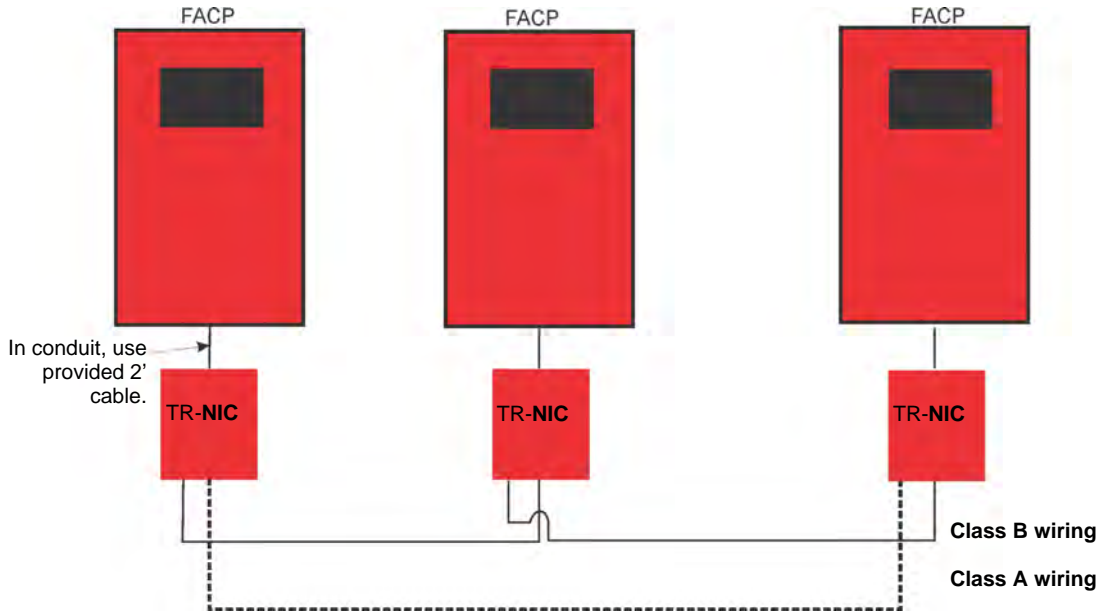

Figure 5.1 External TR-NIC Wiring Option
When networking in a group of TR-75 you must use the TR-NIC to link the panels together. See Figure 5.1 for the external mounting of TR-NIC option.
2. Use the 6-pin cable included with TR-NIC to connect the TR-75 to the TR-NIC. The 6-pin cable must be run in conduit. See Figure 5.1.